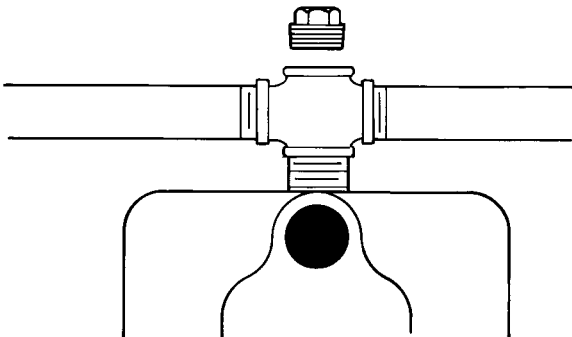

Figure 14 – Remove Priming Plug
1. Remove priming plug (Figure 14).